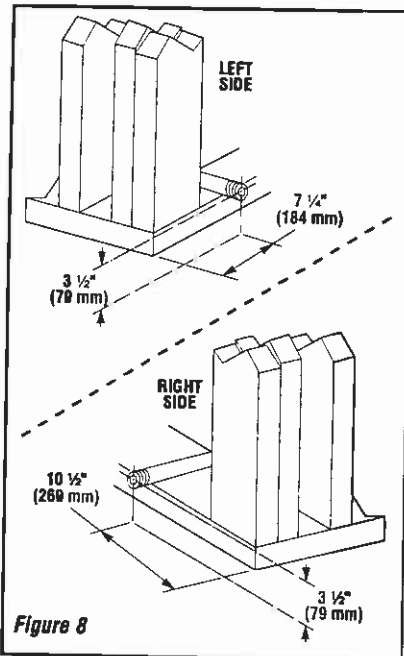

Figure 8
Step 2. Route Gas Supply Line - Route gas line (*Figure 8*) using techniques and materials prescribed by local and/or national codes. It is recommended that a gas line of 1/2" or greater diameter be used to allow full gas volume to the fireplace. Undue pressure loss will occur if the pipe is too small. The appliance, as set up at the factory, is best suited for use with a gas line routed from the left side. The gas line may however be alternately routed from the right side.